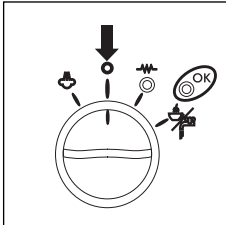

fig. 14
8. To switch off the coffee machine, turn the selector the OFF position "O" (fig 14)
6. When the volume of milk has doubled, immerse the steam nozzle and continue heating the milk. Once the desired temperature has been reached (the ideal temperature is 60°C or when the stainless steel jug is too hot to touch comfortably), stop the steam by turning the steam release knob in a clockwise direction and at the same time positioning the selector to the "O" off position (fig. 14).
4. To stop the flow of hot water, turn the steam knob in a clockwise direction and position the selector knob at boiler "O" position (fig. 14).
5. Turn the selector knob to the  position and allow half of the solution in the tank to flow out. Then stop the flow by turning the selector to the "O" position (fig. 14).